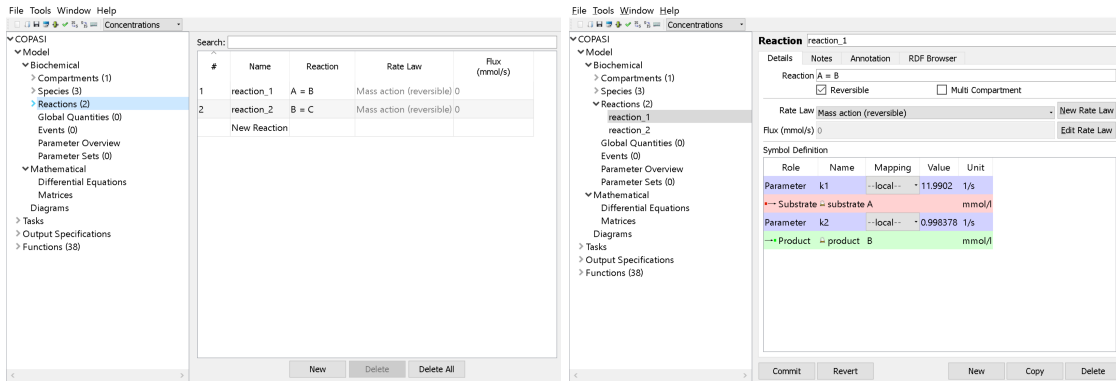

Figure 3: Reaction setup
Step 5. Reactions setup-Figure 3